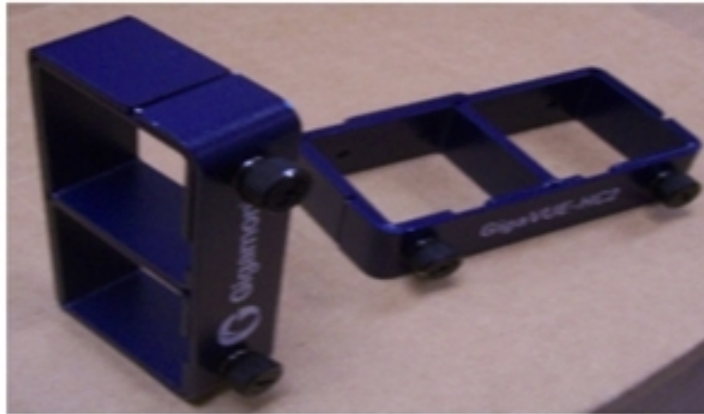

Figure 5 Cable Management Trays
1. Remove the cable management trays from the foam packaging shipped on top of the GigaVUE-HC2 chassis (Figure 5 Cable Management Trays).